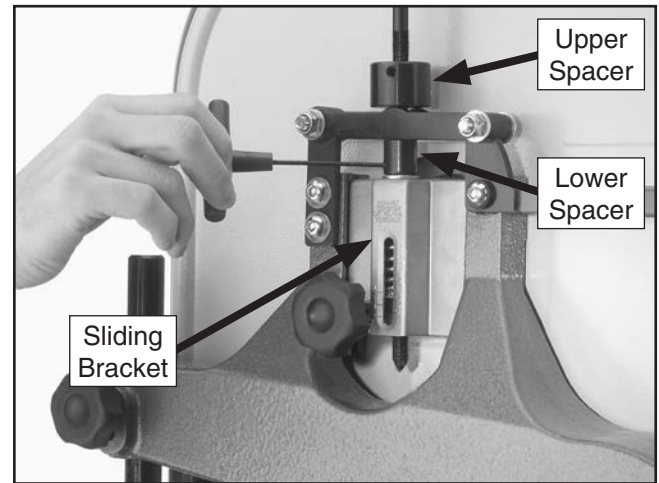

Figure 63. Loosening the spacer set screws.
4. Loosen the set screws in both of the spacers indicated in **Figure 63**.
11. Thread the lower spacer down until it touches the top of the sliding bracket indicated in **Figure 63**.
12. Move the lower spacer back up the shaft about 1-2 turns to leave a small space, and tighten the set screw (see **Figure 63**).